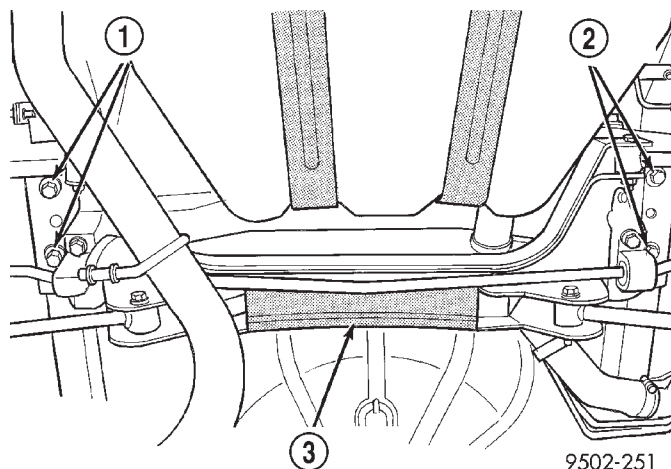

Fig. 7 Suspension Crossmember Attachment To Frame Rails
(8) Remove the nuts and bolts on each side of the vehicle attaching the 4 lateral links to the knuckles.
(9) Remove the 4 bolts attaching the rear suspension crossmember to the rear frame rails (Fig. 7).